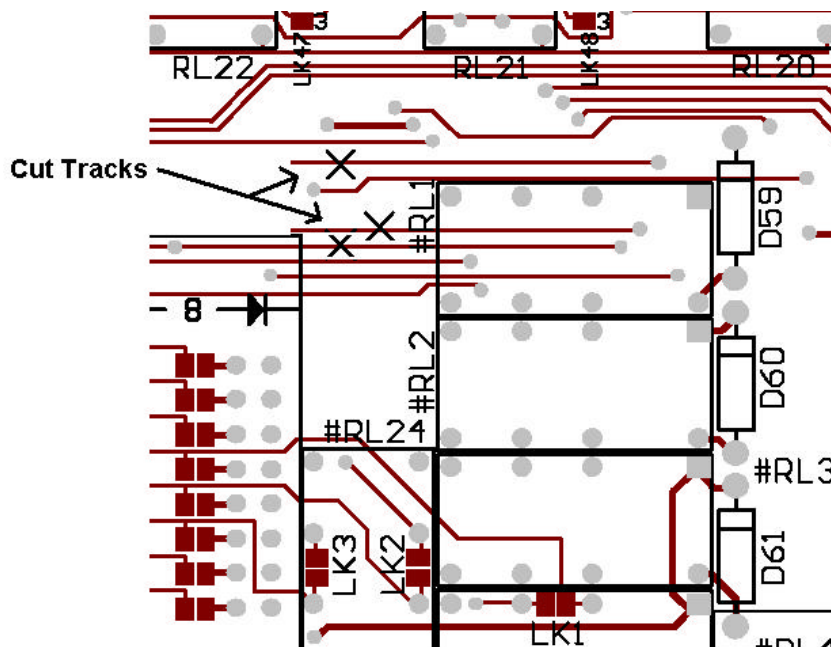

Fig: 1.
7. On the top of the PCB, cut the three tracks shown in Fig. 1.